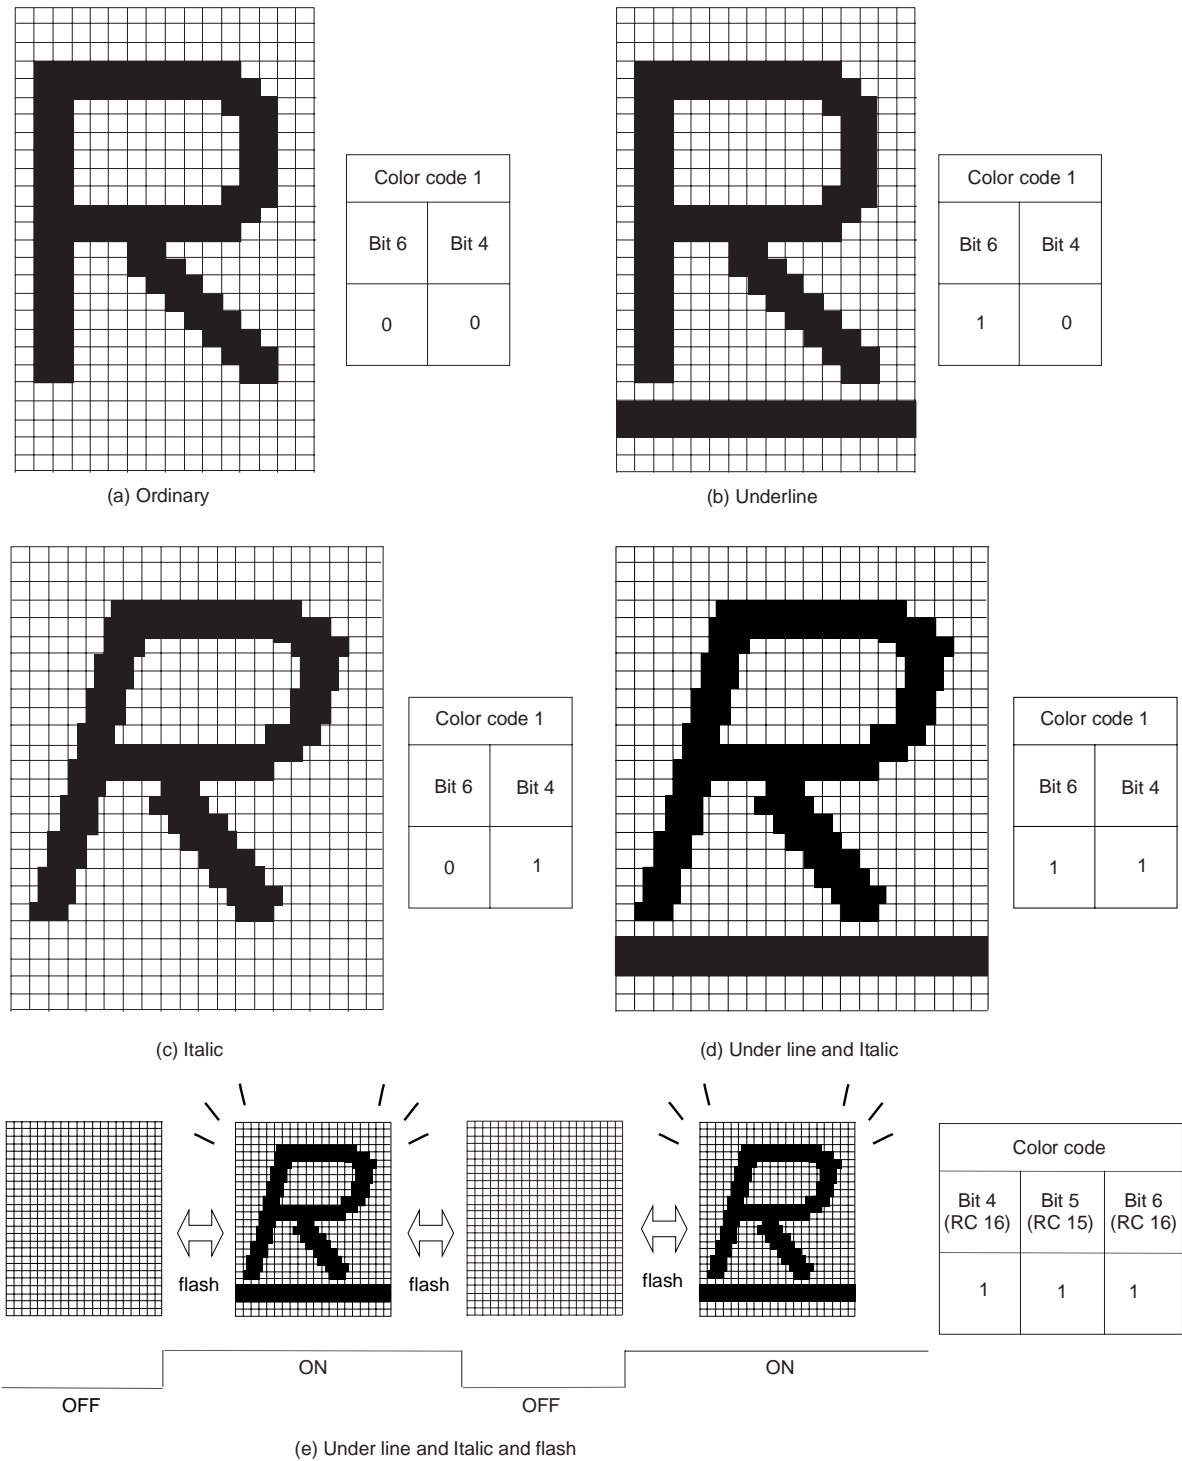

Fig. 12.11.30 Example of Attribute Display (in CC Mode)
- 4: When the pre-divide ratio = 1, the italic character with slant of 1 dot X 5 steps is displayed (refer to Figure 12.11.30 (c)). When the pre-divide ratio = 2, the italic character with slant of 1/2 dot X 10 steps is displayed (refer to Figure 12.11.30 (d)).